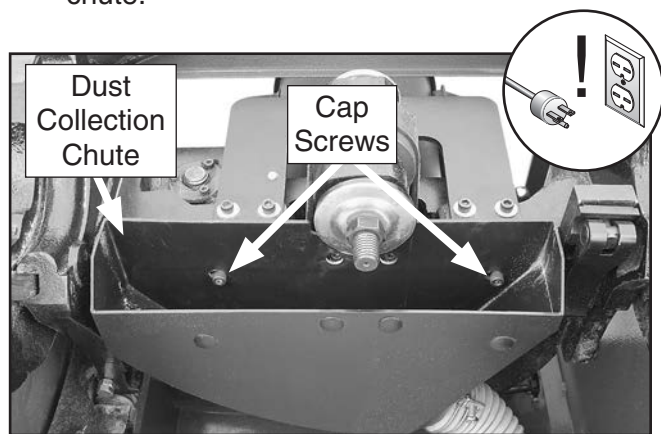

Figure 135. Dust chute mounting screws.
7. Remove cap screws that secure dust collection chute, shown in **Figure 135**, then remove chute.